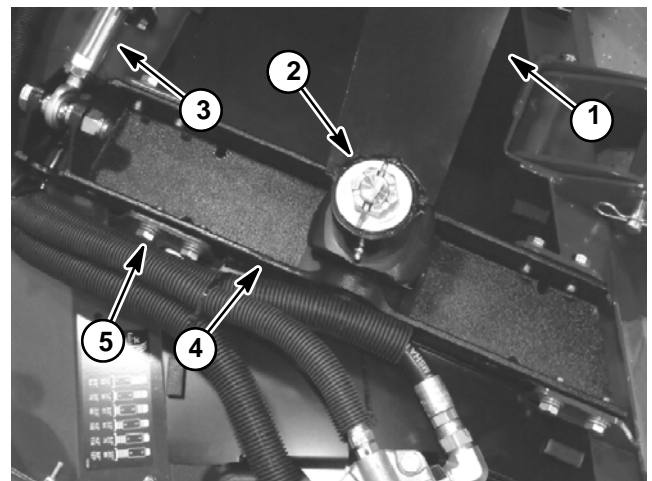

Figure 12
2. Remove cap screw (item 19) and lock nut (item 20) that secures rod end of rear arm assembly to cutting deck. Locate and remove spacer (item 18) from each side of rod end.
3. Remove eight (8) cap screws, lock washers and flat washers that secure deck mount to cutting deck (Fig. 12).
4. Remove cotter pin from joint yoke shaft. Make sure that deck mount is supported and remove slotted hex nut that secures joint yoke to lift arm. Take hardened washer (item 12) and thrust washers (items 21 and 11) from joint yoke shaft. Slowly raise lift arm enough to free joint yoke from lift arm. Remove thrust washer (item 11) and spacer (item 10) from yoke shaft.
2. Secure deck mount to deck with eight (8) cap screws, lock washers and flat washers (Fig. 12).
3. Place spacer washer (chamfered ID side down) and then thrust washer (item 11) onto joint yoke shaft. Insert yoke shaft up through lift arm bushings. Place additional thrust washers (items 11 and 21) and then hardened washer (item 12) on yoke shaft and secure with slotted hex nut. Torque nut from **150 to 180 ft-lb (203 to 244 N-m)** while aligning hole in shaft with slot in nut. Install cotter pin.